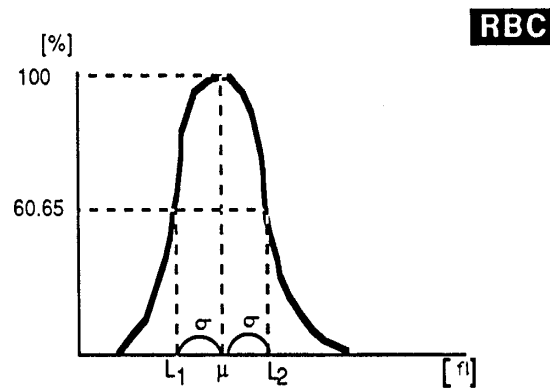

Figure 2-4 RDW-CV Computation
- (1) The mean cell volume (fL) is obtained at the peak of the RBC distribution.
- (2) The standard deviation is obtained to determine the two points where the 60.65% level intersects the RBC distribution, taking the histogram peak as 100% (Figure 2-4).